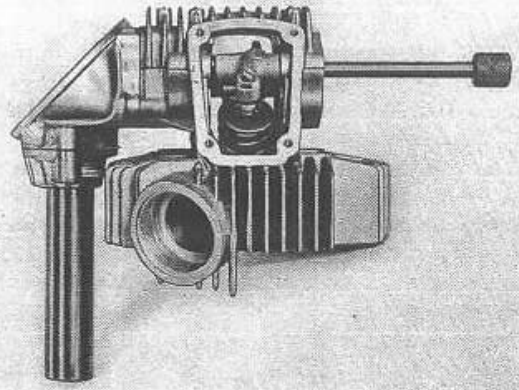

Fig. 94
Per le prove di spessorazione usare l'attrezzo 88713.0262 (ved. fig. 94).
- 6) Fit the rockers, being careful to place thickness washers on sides, so that axial play is avoided: rocker slippers must perfectly center the valve stem. To check this operation, special tool no. 88713.0262 should be used (see fig. 94).